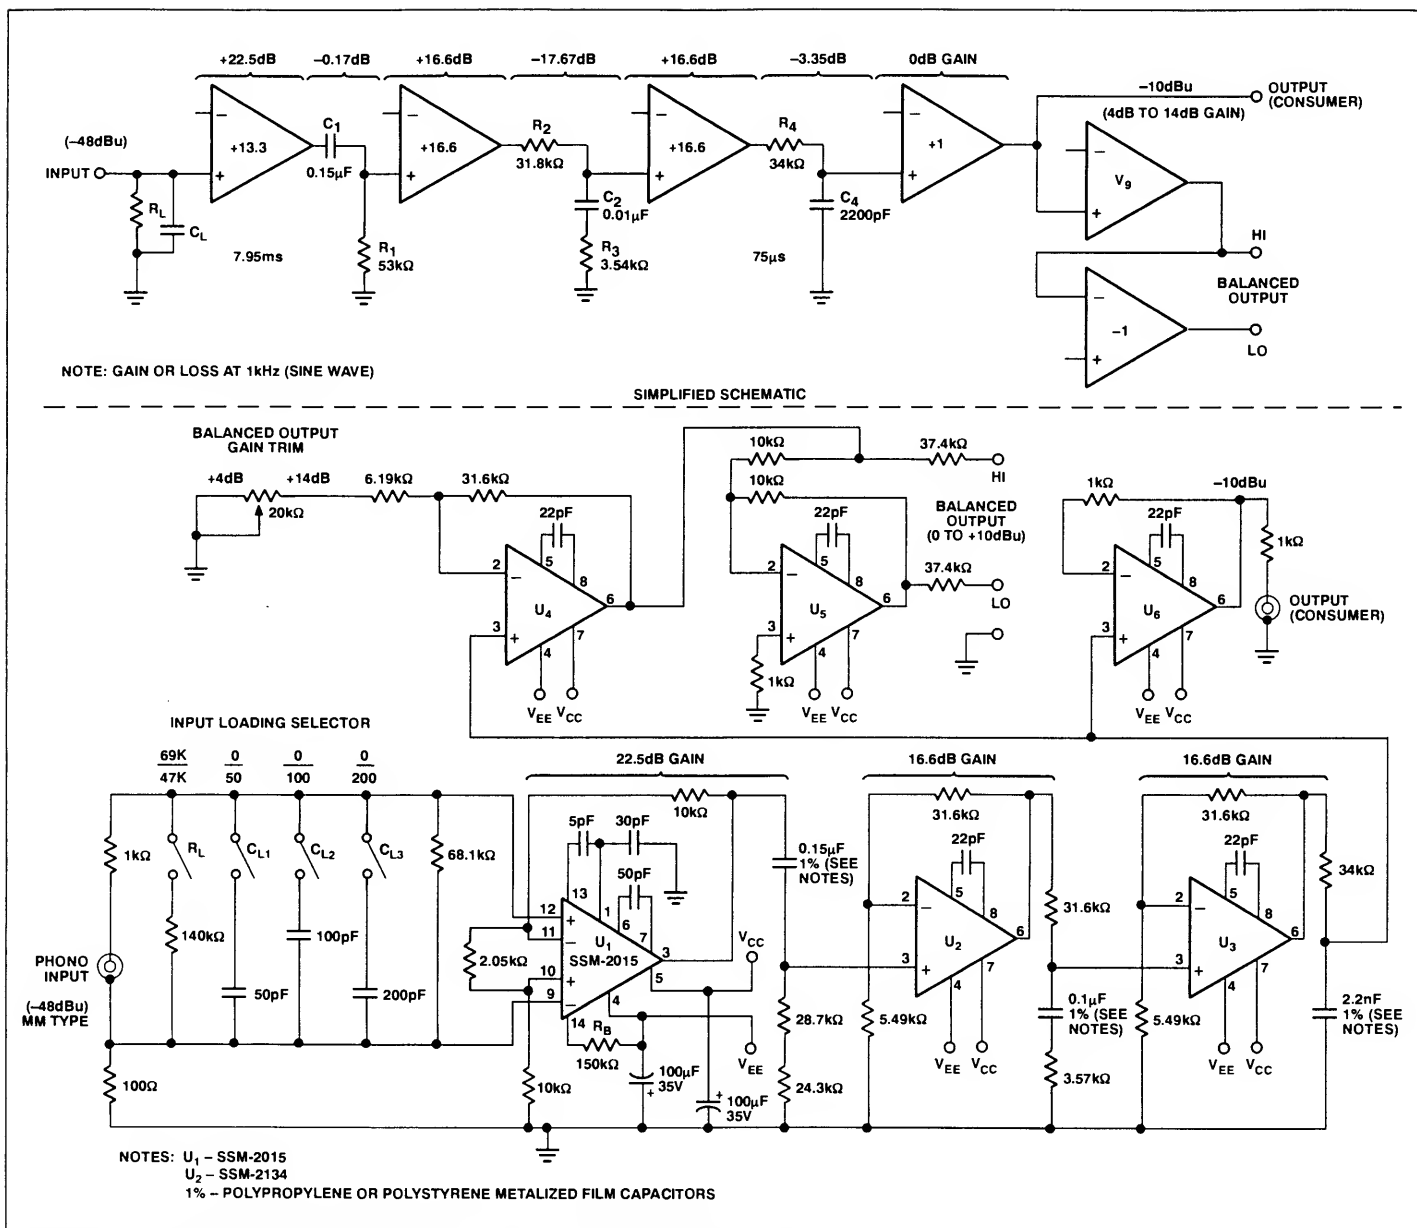

FIGURE 2: Passive (Multi-Filter) RIAA/IEC Equalized Phono Preamplifier
The Passive Split Multi-Filter RIAA/IEC Preamplifier design, shown in Figure 2, is intended for moving magnet (MM) input phono transducers. The design has an extremely low noise circuit topology, high accuracy passive RIAA/IEC equalization filters, and both unbalanced consumer and balanced output circuits. The input configuration utilizes the SSM-2015. It provides the lowest possible noise, adjustable resistive and capacitive input loading, and high accuracy passive RIAA filtering totally devoid of transient and frequency dependent gain errors.
Referring to Figure 2, the following two stages contain the RIAA-RIAA/IEC passive equalization filters. All high pass and low pass filters are passive. The signal is amplified by  $U_2$  and  $U_3$  SSM-2134 op amps. The overall gain of the circuit at 1,000Hz is 38dB. RIAA equalization requires a gain of 19.3dB at 20Hz, and attenuation of 19.6dB at 20,000Hz. Open-loop gain of  $U_2$  and  $U_3$  is greater than 100dB at 20Hz, and 60dB at 20,000Hz. Closed-loop gain of  $U_1$  is 22.5dB, and  $U_2$ ,  $U_3$  is 16.6dB, ensuring an extensive gain margin for phase accuracy. Refer to Table 3 for complete circuit specifications.